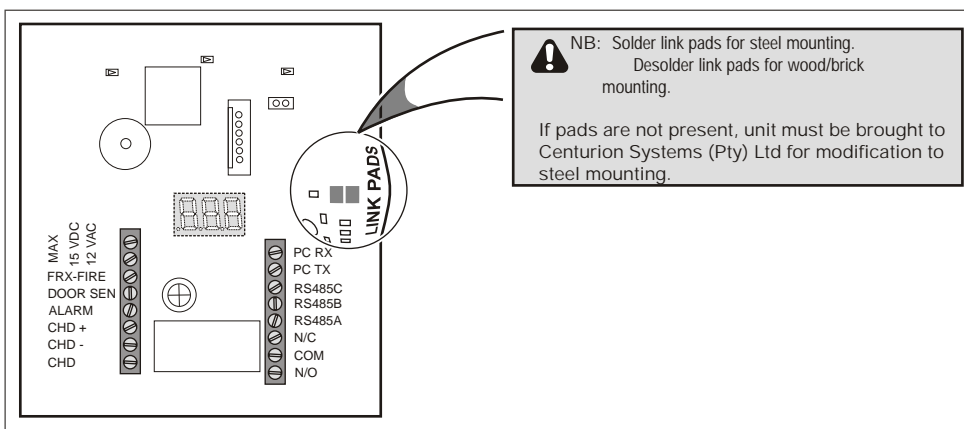

Fig 1 Layout of Lattice L1000 Controller
- Ensure Jumpers 1 and 2 are correctly positioned - refer to Figure 1 on page 12.
- Clip the top of the controller front housing into the top lip of the mounting frame (A), and fold down into position ensuring the cable is not caught (B).